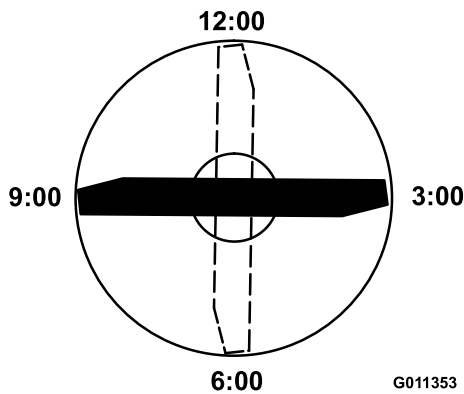

Figure 57
4. Position the cutting edge of the marked end of the blade at 12 o'clock (straight ahead in the direction of mowing) (Figure 57) and measure height from table to cutting edge of blade.
5. Rotate the marked end of the blade to the 3 and 9 o'clock positions (Figure 57) and measure the heights.